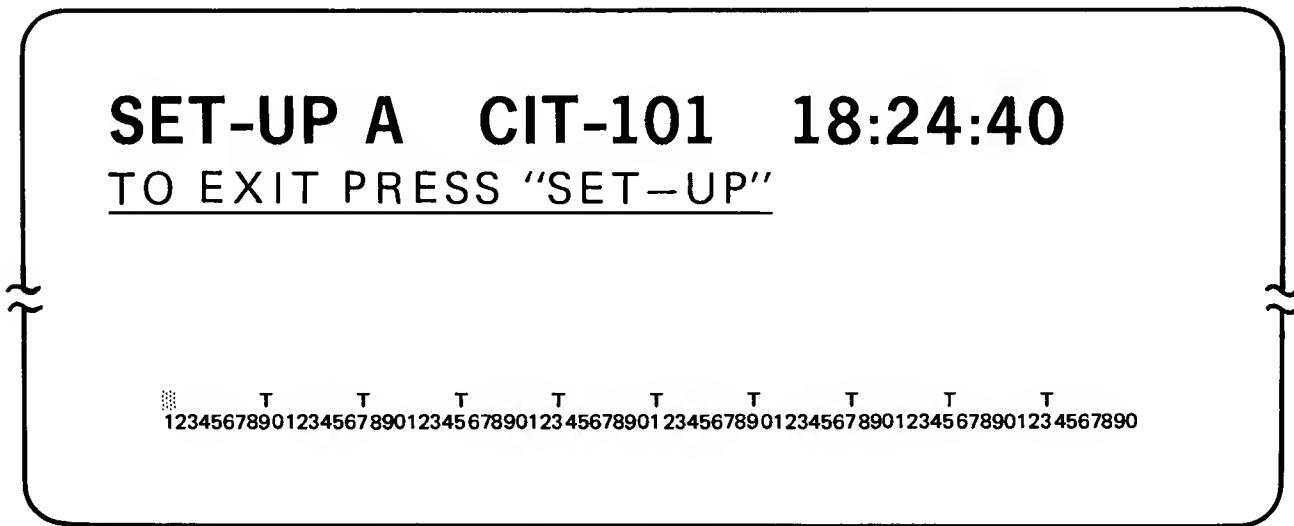

Figure 3-6. SET-UP A Mode With Time-of-Day Clock Display
3.2.5.2.4 Time-of-day clock. A Double-Height, Double-Width, 24 hour Time-of-Day Clock is available for viewing while in any SET-UP mode. This clock is enabled and set via the same command and may be disabled if desired. Figure 3-6 shows the time of day clock display. See Section 4.4.30 for these commands.
3.2.6.1 SET-UP A Mode. SET-UP A Mode is entered by pressing the “SET-UP” key. In this mode the Display shows in ruler fashion the locations of all the currently set TAB STOP positions and the currently selected Screen Width. Each available column is numbered in repeating groups of 1 through 0 for easy location of the TAB STOPS. Figure 3-6 shows a picture of SET-UP A Mode.